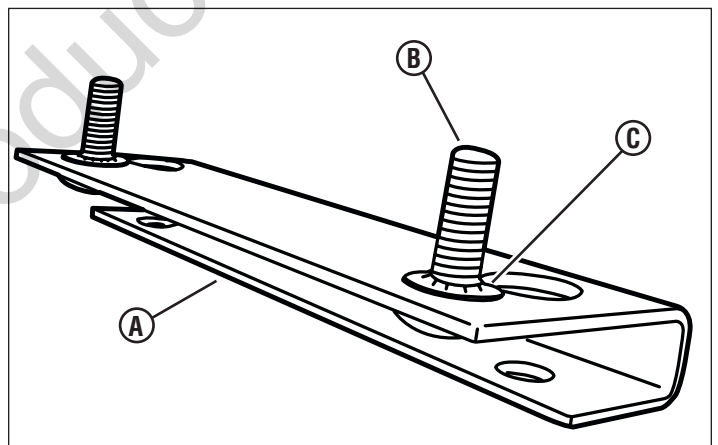

Figure 9
- A. Insert the 5/16" carriage bolts (B, Figure 9) into the seat brackets (A). Secure the carriage bolts with the bolt retainers (C).